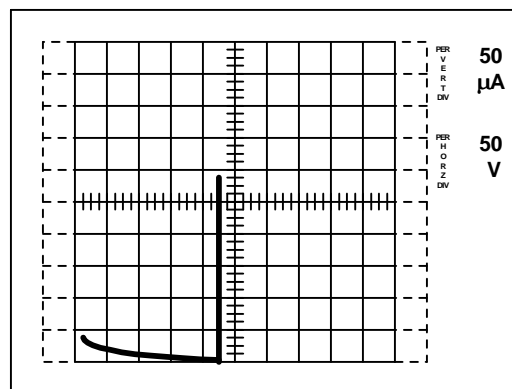

Figure 2. Drain-source breakdown voltage
9. Connect the device using the LEFT/RIGHT switch. Increase the collector supply voltage using the VARIABLE COLLECTOR SUPPLY control until the current (as indicated by the trace on the screen) reaches 250 microA. (See Figure 2.) Read BV_{DSS} from the screen.